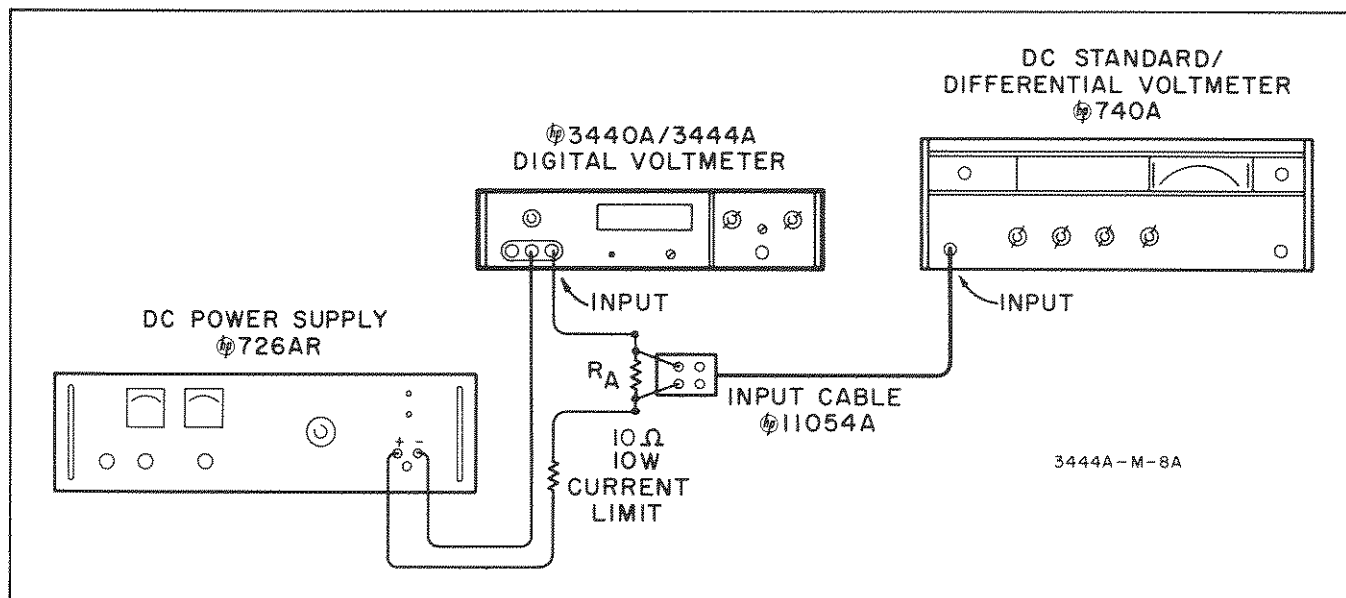

Figure 5-1. Ammeter Performance Check Setup
- a. Connect the test setup shown in Figure 5-1, Ammeter Calibration Check Setup. Place the ten-ohm, ten-watt resistor listed in Table 5-1 as a current limiting resistor.
- d. This completes the ammeter calibration checks. Disconnect the setup of Figure 5-1 retaining the Differential Voltmeter for the next performance check.
- e. Connect the circuit of Figure 5-1 leaving the digital recorder connected to the 3440A. The differential voltmeter need not be connected.